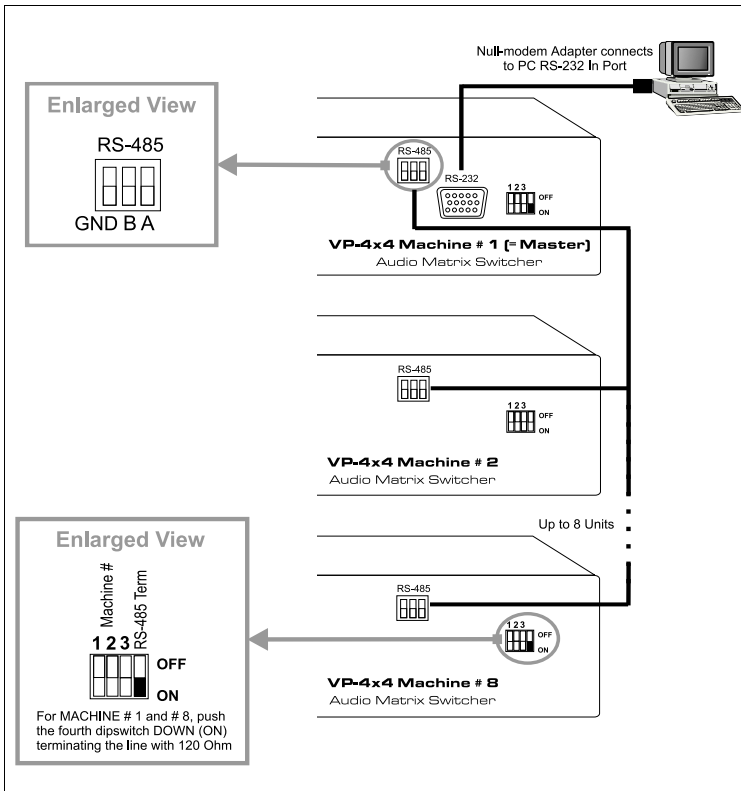

Figure 3: VP-4x4 Connections
- Connect the RS-232 DB9 rear panel port on the Master **VP-4x4** unit to the Null-modem adapter and connect the Null-modem adapter with a 9 wire flat cable to the RS-232 DB9 port on your PC, as Figure 3 illustrates
Connect a Phoenix terminal block cable connector to the RS-485 port on each **VP-4x4** unit in the series1, as Figure 3 illustrates.
The **VP-4x4** includes a set of 4 dipswitches, as Figure 3 illustrates above. You configure each **VP-4x4** unit by setting the dipswitches as follows: